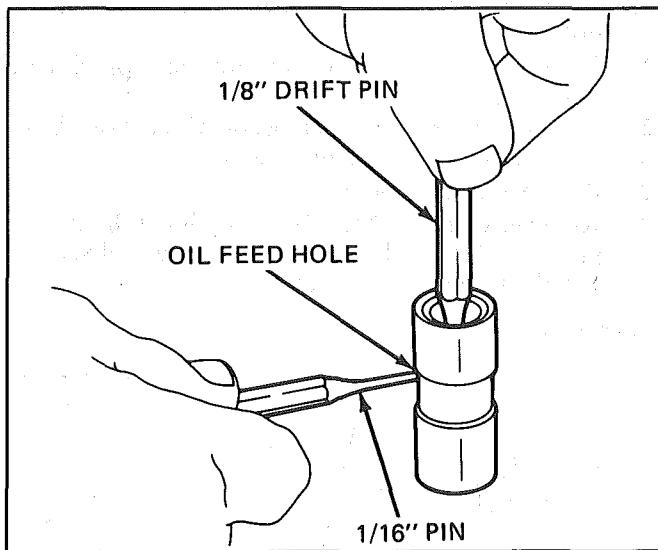

Fig. 6A3-14 Assembling Hydraulic Lifter Typical
5. Insert a 1/16" drift pin through both oil holes to hold the plunger down against the lifter spring tension (fig. 6A3-14).